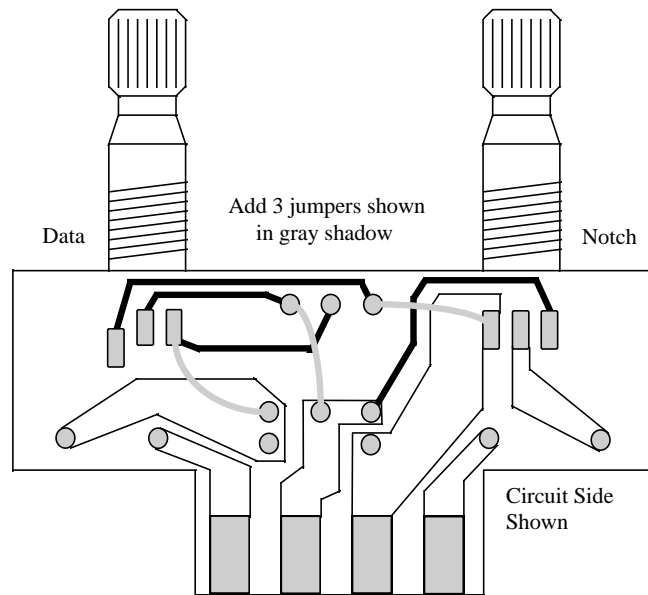

Figure 1. Jumpers to be added to the Data/Notch board
12) Study the drawing included below (Figure 1). You will be making connections between the data pot and the 4 board edge contacts. Remove the two 4.7K resistors, R8 and R51, in the center of the board. They currently are being used to bias the PBT circuitry. Add the 3 jumpers shown in gray shading in the drawing to the back of the board.